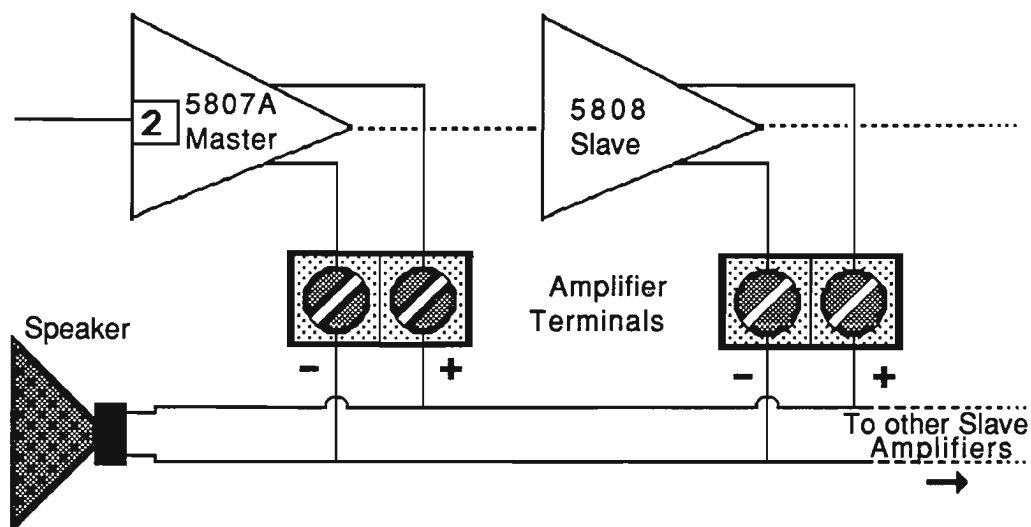

Figure 4
3. Insert the two (or more) modules into these two adjacent Mainframe slots, with the master module to the **left** of the slave module, as you face the front of the Mainframe. The resulting electrical configuration is show in Figure 4 below: